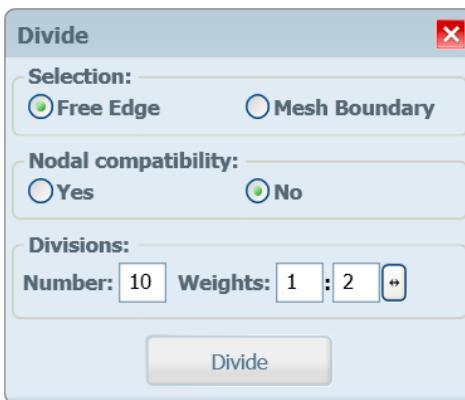

Figure 29. Meshing by Edge.
- b. A window will pop up as shown in Figure 29.